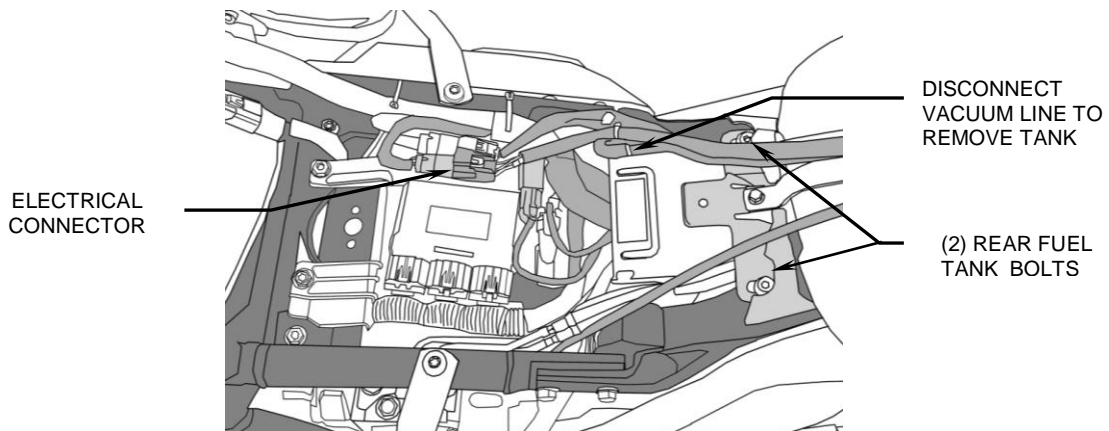

FIGURE 1
3. Disconnect electrical connector and vacuum line on the upper left side of frame behind rear of fuel tank and remove the two bolts securing rear of fuel tank. Pull the vacuum line running down right side of frame upward so it can be removed with tank, see Figure 1. Disconnect the dry-break fuel line from the bottom of the fuel tank by pulling the outer ring upward and then the fuel line / fitting downward. At the front of the fuel tank remove the rubber covers which are installed on the fuel tank's front bolts. With help, remove the bolts and then the entire fuel tank from the motorcycle, set in a secure area to prevent any damage to the tank or paint.